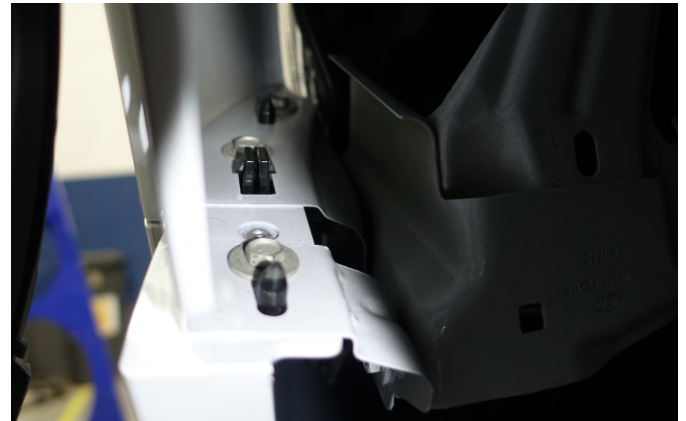

Fig.10
10. Unscrew factory bolts (fig.10).